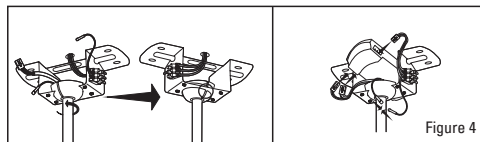

Figure 4
4. Remote control and wiring instruction. (Figure 4)